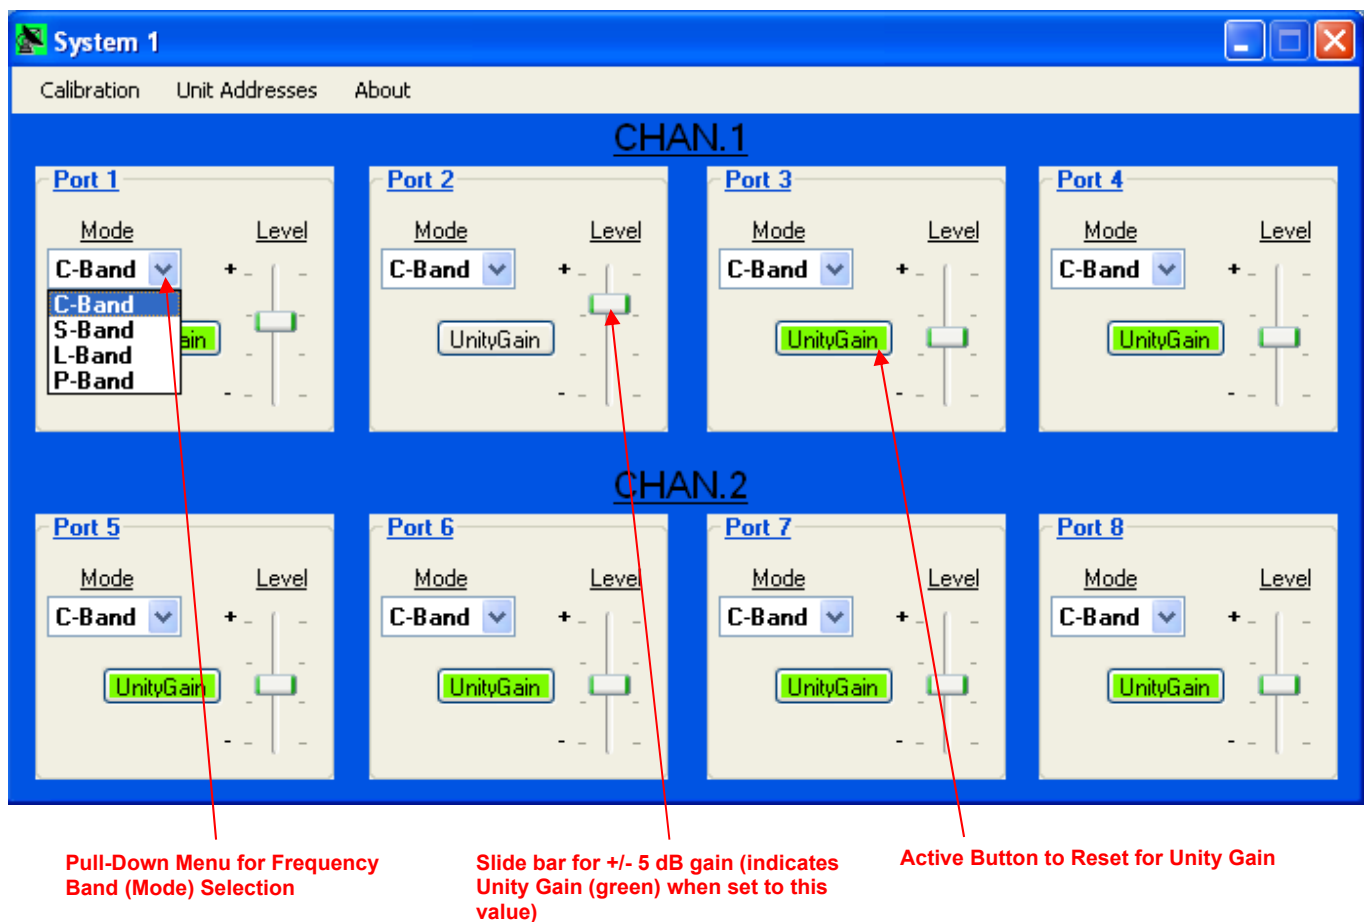

Figure 3-6
Step 7 – Click on the **SEMCO MCCS** Icon to launch the remote network software. The software control panel depicted in Figure 3-6 will appear.
As shown in Figure 3-6, there are 3 controls per channel: